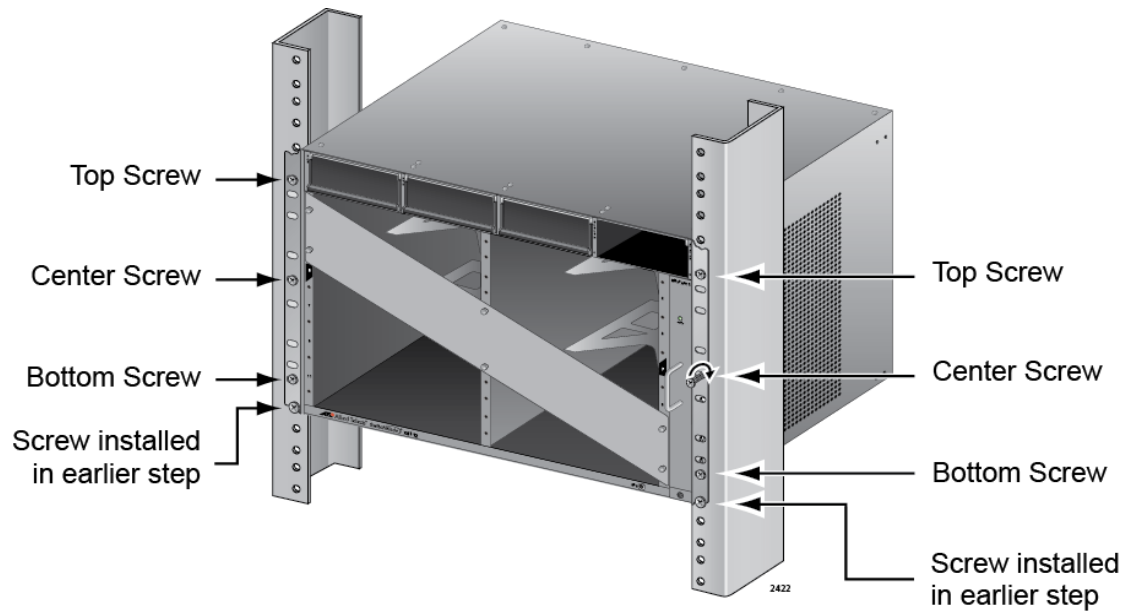

Figure 35. Installing the Rack Mount Screws
4. Install six rack mount screws (not provided) to secure the chassis to the equipment rack, as shown in Figure 35 on page 100.